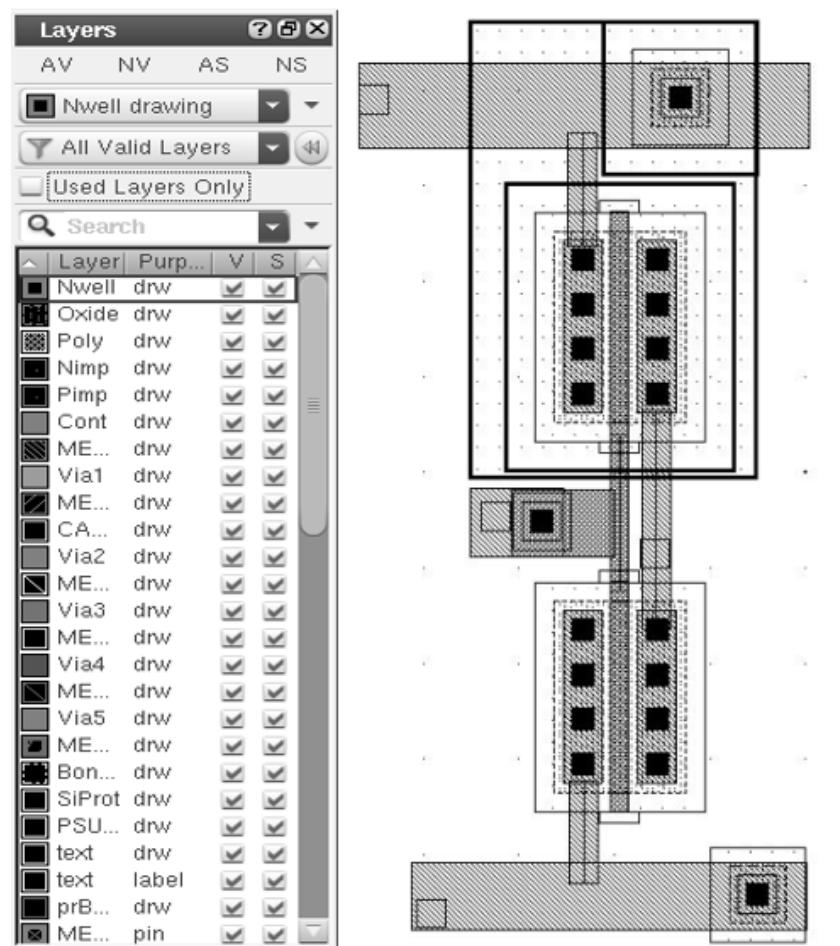

Figure 6.5: LSW & Inverter Layout
3. After clicking OK in Fig.6.4b, Virtuoso Layout XL editor should open as well as the Layer Selection Window (LSW) (Fig.6.5).
10. After completing the above steps, you should obtain a layout of the inverter which resembles the layout shown in Fig.6.5